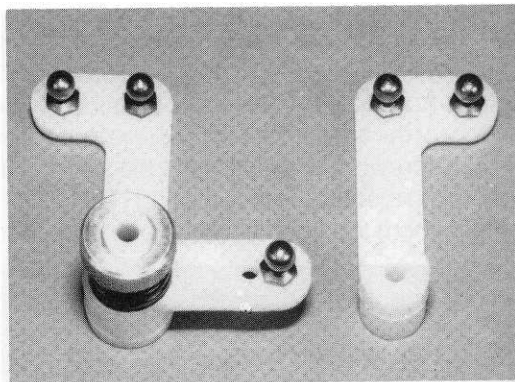

**Fig. 23**
□ **Figs. 23 & 24** From the same bag, slip the left hand servo saver arm, the one with the big hole, down onto the aluminum tube. Be sure the hex aligns at the bottom. Now slip the servo arm onto the tube, lining up the V slots.